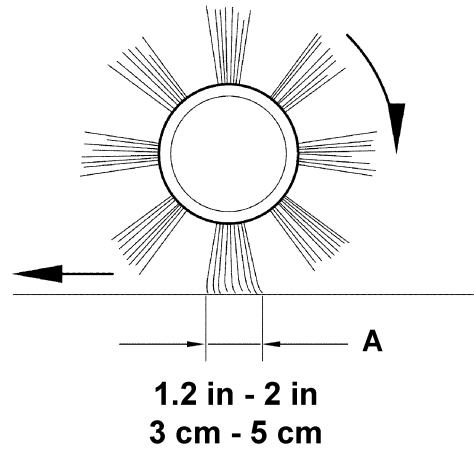
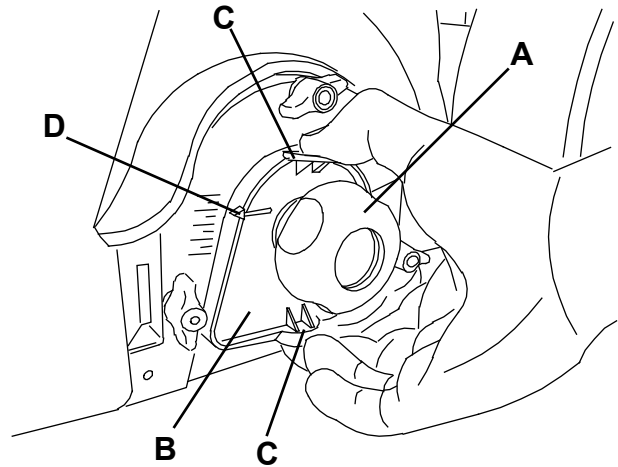

Figure 3
Figure 4
- Turn off the main broom by pressing the switch (1), then move the machine.
- Check that the main broom print (A, Fig. 3), along its length, is 3-5 cm wide.
- Turn the main switch (1) to "0".
- Loosen the knob (A, Fig. 4) on both sides of the machine.
- Grasp the support (B) on the points (C) and move it upwards, then lift it or lower it to change the main broom height. For height variation, refer to the indicator (D). Then tighten the knob (A) on both sides of the machine.